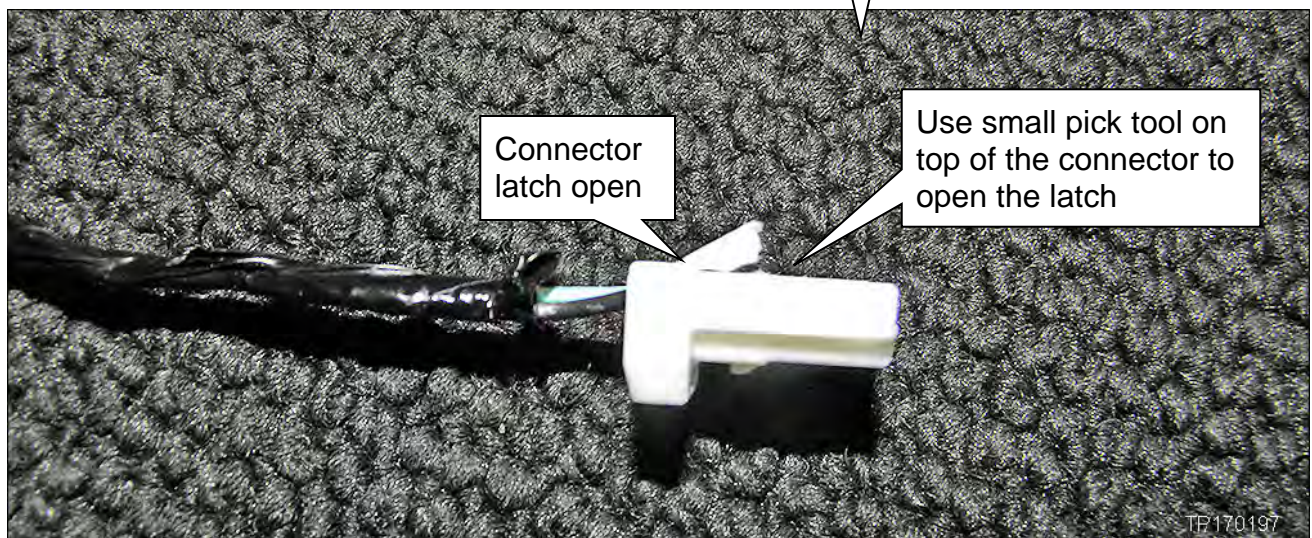

Figure 7
14. Use a small pick tool on top of the connector to open the connector latch (see Figure 7).